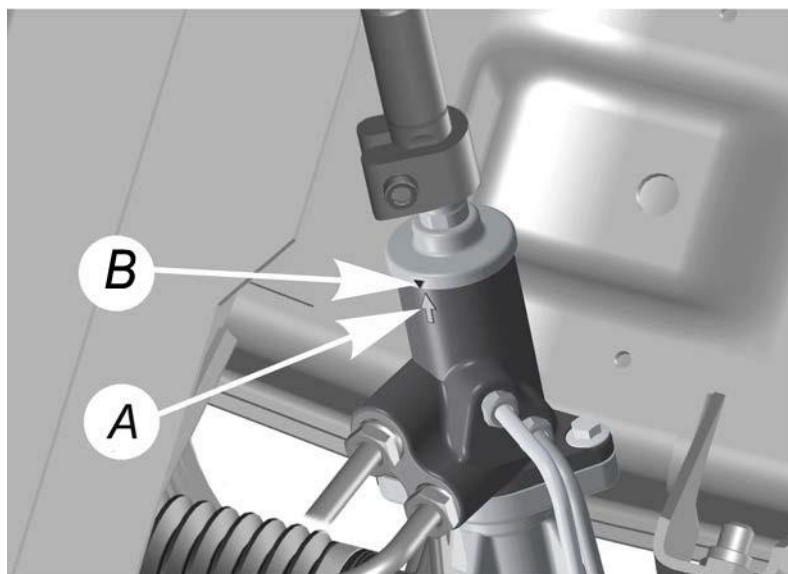

Fig. 5.9. Adjustment marks on the steering gear: A – mark on steering gear boss; B – mark on input shaft cover
- set the steering gear in the middle position (arrow B (Fig. 5.9) on the steering input shaft cover must coincide with the mark A of the injection mold connector on the distributor housing. At the same time, the steered wheels must be in the straight movement position);
Before installing on the vehicle, fix the steering input shaft in the middle position, in which the arrow B (Fig. 5.9) on the steering input shaft cover must coincide with the mark A of the injection mold connector on the distributor housing, and the dimension $C=645\pm 1.5$ mm is maintained (see Fig. 5.2).
- install and fix the steering input shaft in the middle position (arrow B (Fig. 5.9) on the steering input shaft cover must coincide with the mark A of the injection mold connector on the distributor housing. At the same time, the steered wheels must be in the straight movement position);